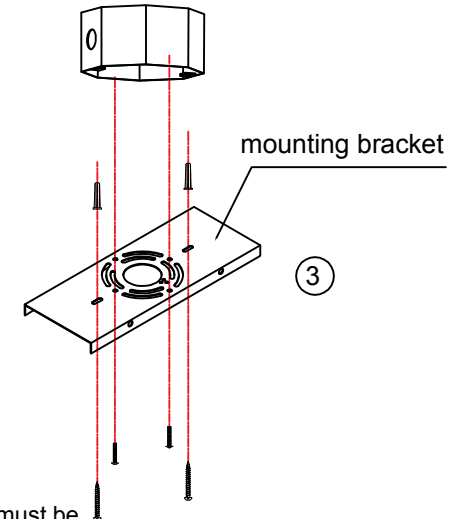

Fig.3
4. Mark ceiling and install ceiling anchors. Attach mounting plate to junction box and attach screws to ceiling anchors for added support (Fig. 3)